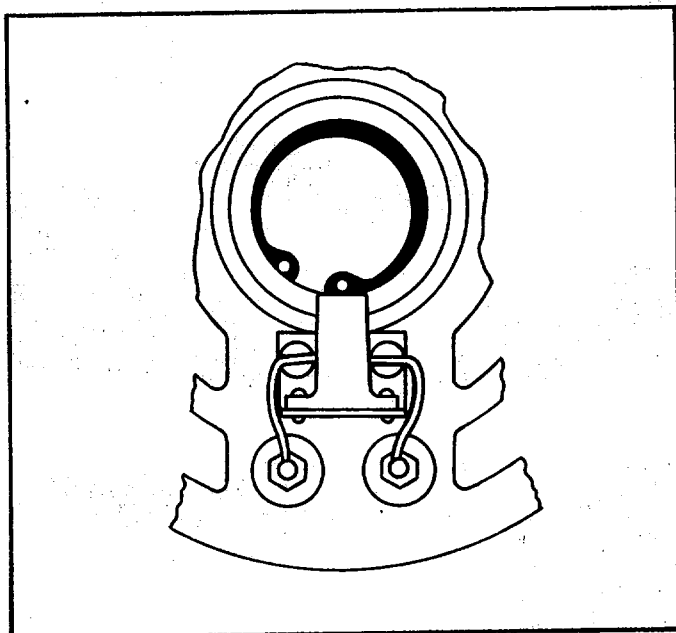

Figure 2-8
2. Install bearing snap ring retainer, positioning gap in retainer relative to brushholder as shown in Figure 2-8.